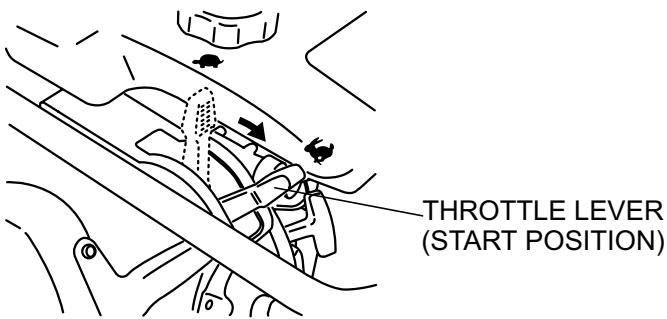

Figure 9. Throttle Lever (Start Position)
1. To start the rammer tamping action, move the throttle lever (Figure 9) **quickly** from **IDLE** to the **START** (握) position. **DO NOT** move the throttle lever slowly as this may cause damage to the clutch or spring.